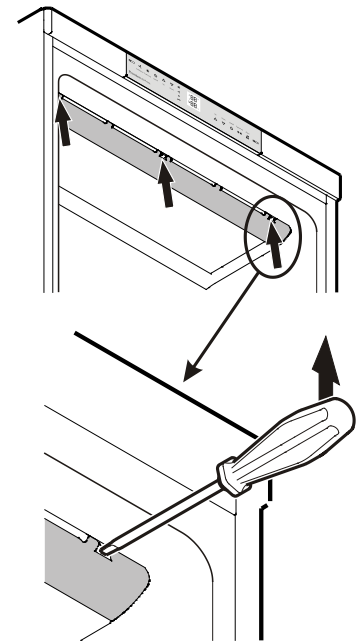

Figure 13
1. Unlatch carefully the cover at left, middle and right using a screwdriver - **Fig. 13**.